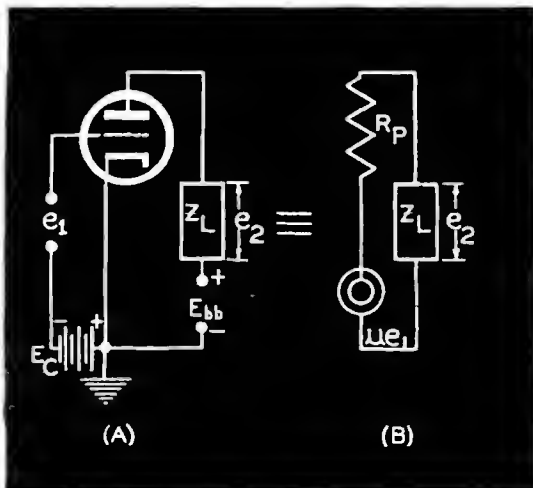

Figure 1
Figure 2 (left), a constant current circuit wherein the current  $G_m E_1$  generated, flows into the plate resistance  $R_p$  of the actual tube and the external load impedance  $Z_L$  in parallel. Figure 3 (right), a constant current circuit equivalent to the constant (generated) voltage circuit shown in Figure 1 (B).